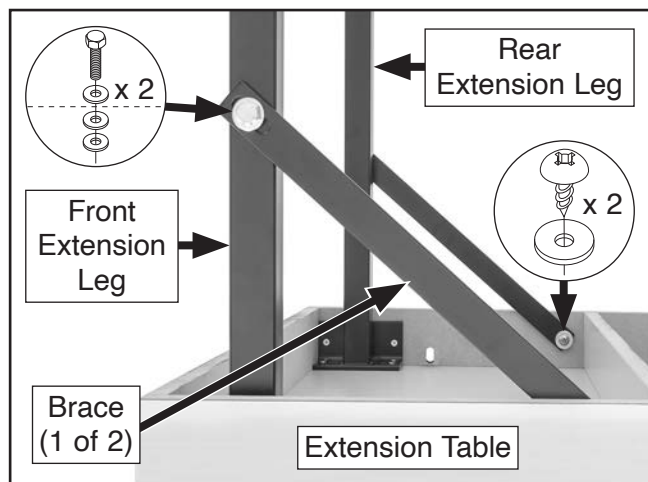

Figure 11. Braces attached to front extension leg, rear extension leg, and extension table.
16. Secure braces to extension table and each extension leg using (2) 3/8"-16 x 3/4" hex bolts, (6) 3/8" flat washers, (2) 1/4" x 3/4" tap screws and (2) 1/4" fender washers (see **Figure 11**).